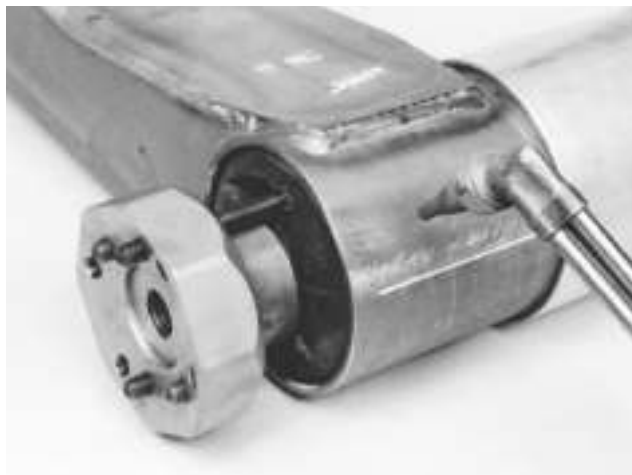

Figure 26: As a last resort, apply heat to the bushing tube
**NOTE:** Diagonal placement of the set screws is to prevent drive plate rotation during bushing removal as shown in Figure 26 on page 13.
As a last resort, a small amount of heat may be required to break the bushing loose (Figure 26).